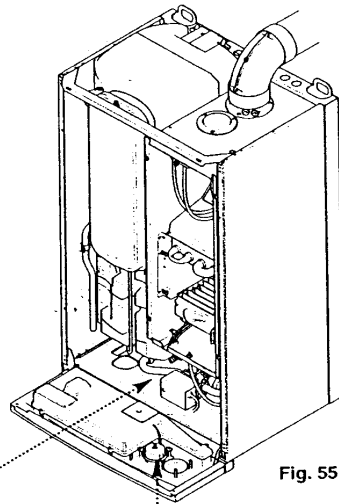

Fig. 55
**11.5 Pressure Gauge (Figs. 55, 56 & 57)**